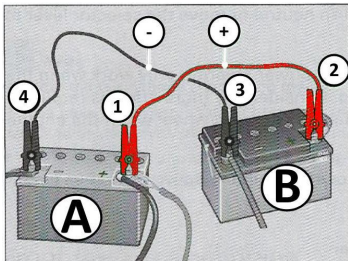

Fig. 148
1. Connect one end of the positive lead to the positive terminal (Fig 148) (1) and the discharged battery (A).
2. Connect the other end of the positive lead to the positive terminal (2) of the boost battery (B).